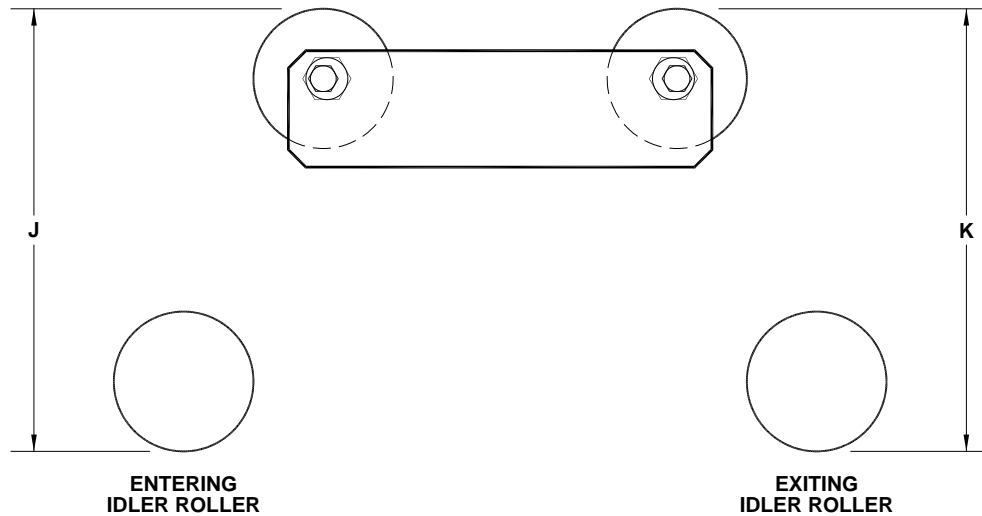

Figure 2.
4. Measure the distance between the entering idler roller and the entering guide roller (Dimension "J", Figure 2); again, approximately 1 inch from each end of the rollers.
5. To adjust the exiting rollers ("K" Dimension, Figure 2), follow the same instructions described in step 4.